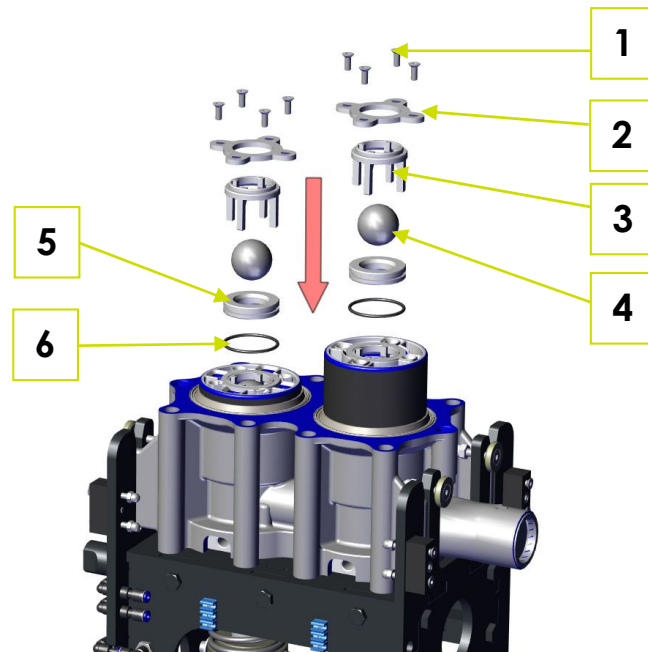

Fig. 6-1: Dismounting the media valves in the cylinder block
1. Unscrew all eight countersunk head screws M6x16 (1) with a 4 mm Allen key (Fig. 6-1: Dismounting the media valves in the cylinder block).
2. Take out both retaining stars (2).
3. Take out both cages (3) and balls (4).
4. Take out both valve seats (5) with the O-rings.